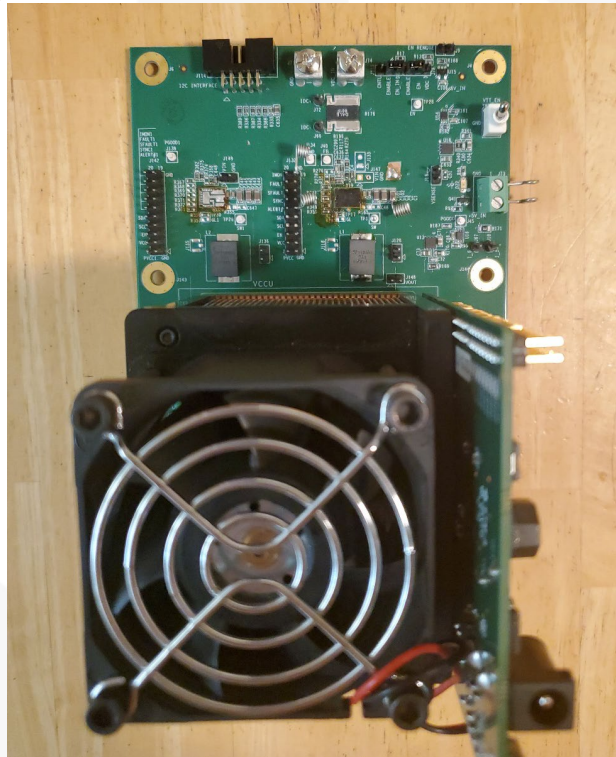

Figure 4. NCP3286 2-Phase EVB with Gen 4 VRTT installed in BGA359 Socket
1. Plug Gen4 VRTT directly into the BGA359 socket (J117, if provided) on the EVB. When inserted properly, the Gen4 VRTT will have the control board facing to the right, as shown in Figure 4.